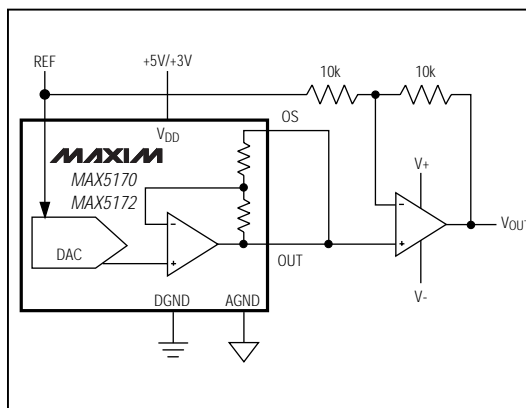

Figure 8. Bipolar Output Circuit
Figure 8 shows the MAX5170/MAX5172 configured for bipolar output operation. The output voltage is given by the following equation (OS = AGND):
where N represents the numeric value of the DAC's binary input code,  $V_{REF}$  is the voltage of the external reference. Table 3 shows digital codes and the corresponding output voltage for Figure 8's circuit.
**Table 3. Bipolar Code Table (Circuit of Figure 8)**